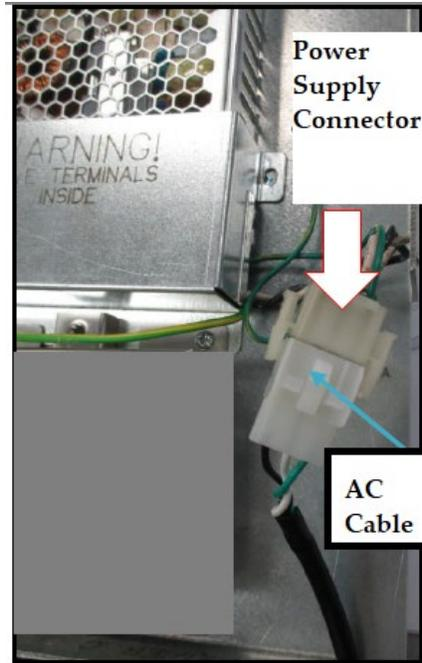

Figure 15
12) Disconnect the AC power cable that is attached to the power supply connector without the Invenco Link attached. See Figure 15 below.